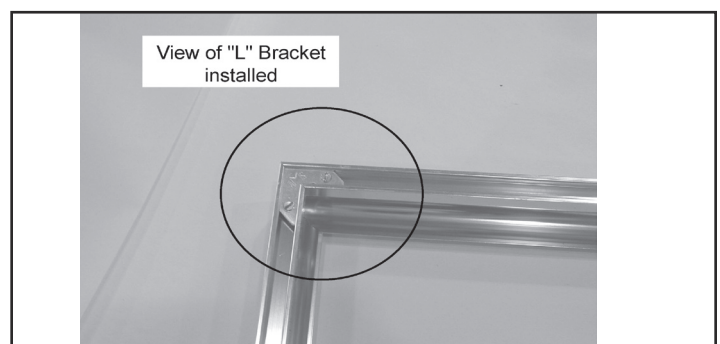

Figure 21.4
3. Connect the trim pieces together using the "L" Brackets supplied. **Figure 21.4.**